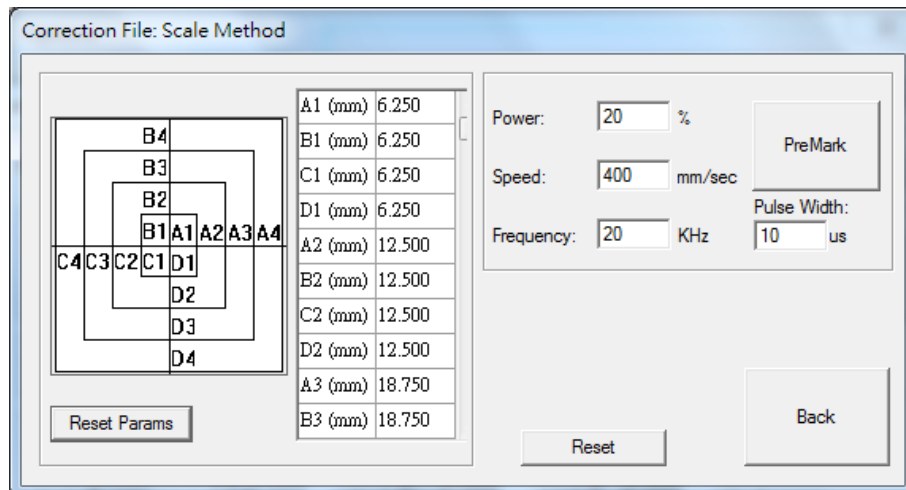

Fig. 1.1.46
- Step 4** Click the “Input Data” button for next step, see Fig.1.1.46.